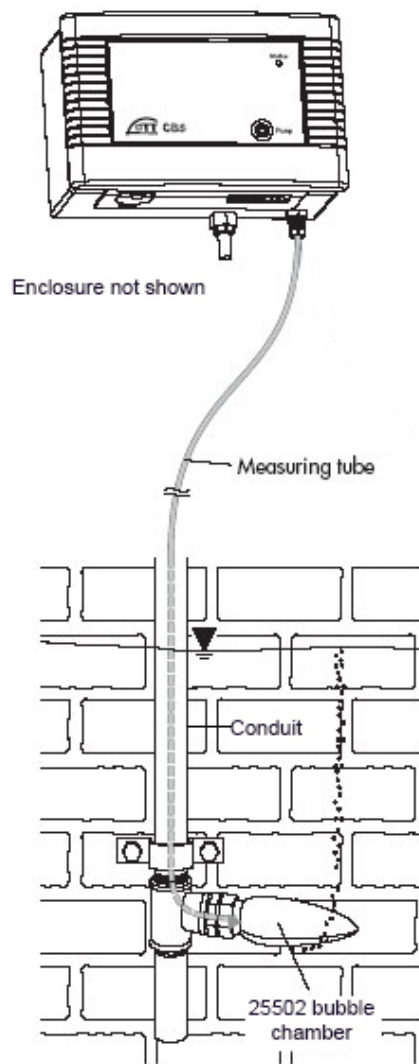

FIGURE 7-2. Bubble Chamber Installation
1. Install conduit (metal or plastic) from the CS470/CS471 to where the bubble chamber will be located. There should be a continuous drop from the CS470/CS471 to the bubble chamber (see FIGURE 7-2).